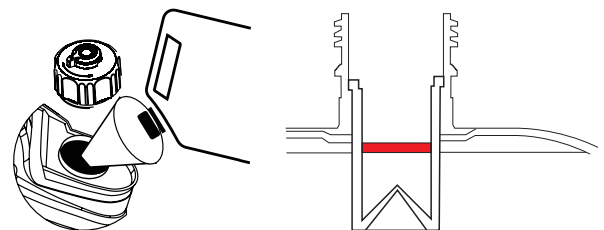

Figure 5. Maximum Gasoline Fill Level
6. Slowly add gasoline into the fuel tank. Be very careful not to overfill the tank. The gasoline level should NOT be higher than the red ring (see Figure 5).